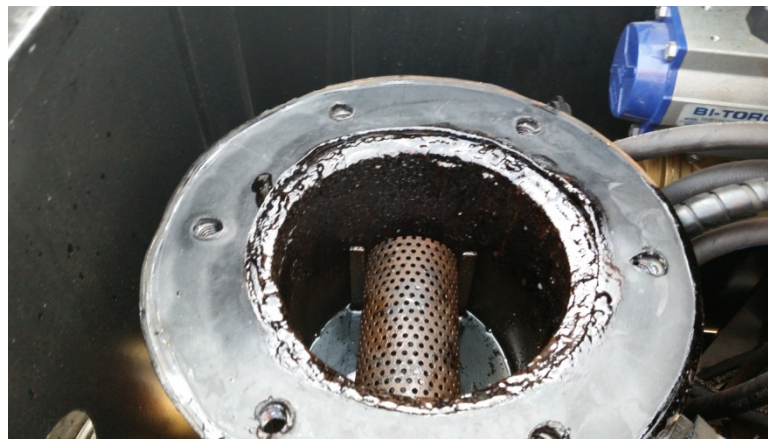

Figure 45: Strainer screen in the pumping station
3. Pull out the strainer screen (Figure 45).